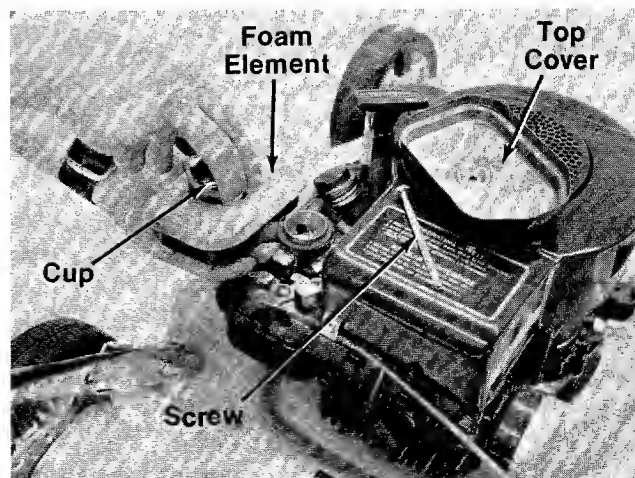

FIGURE 23.
**CLEAN AIR CLEANER** and re-oil element every 25 hours under normal conditions. Clean every few hours under extremely dusty conditions. Poor engine performance and flooding usually indicates that the air cleaner should be serviced. See figure 23.